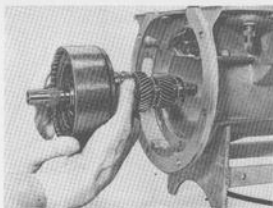

Fig. 4-120. Installing rear clutch and forward sun gear group
15. Install the rear needle thrust bearing and fit the clutch in the transmission as shown in Fig. 4-120.